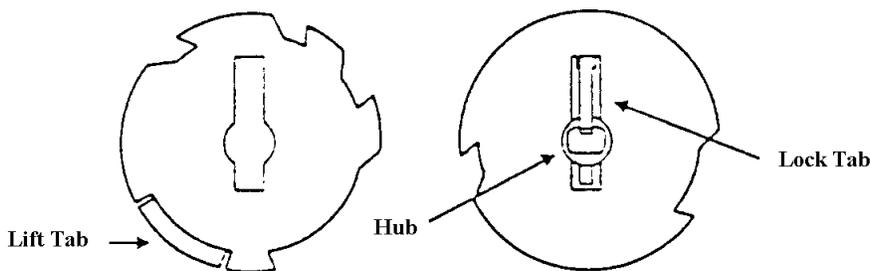

Fig. 5
2. Locate the Lift Tab on the outer edge of the Cam. (See fig. 5).